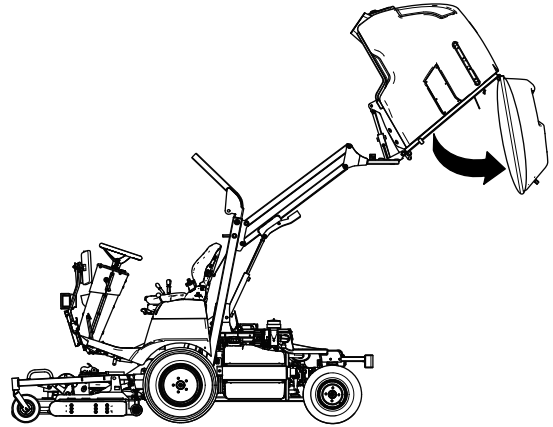

Figure 140
2. Raise the hopper (Figure 140) to the full height position; refer to Raising the Hopper \(page 32\).
3. Dump the hopper (Figure 140) and leave it in the full dumped position, with the rear door hanging freely; refer to Dumping the Hopper \(page 33\).